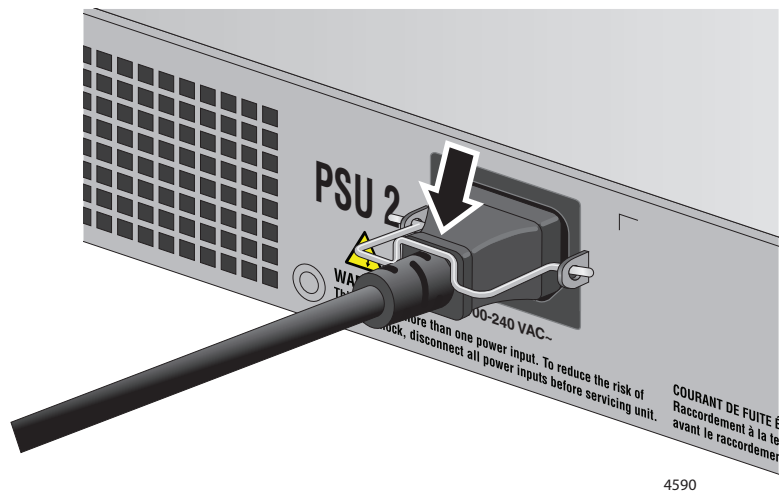

Figure 49. Plugging in the AC Power Cord to the Switch
3. Lower the power cord retaining clips to secure the cord to the switch. Refer to Figure 49.